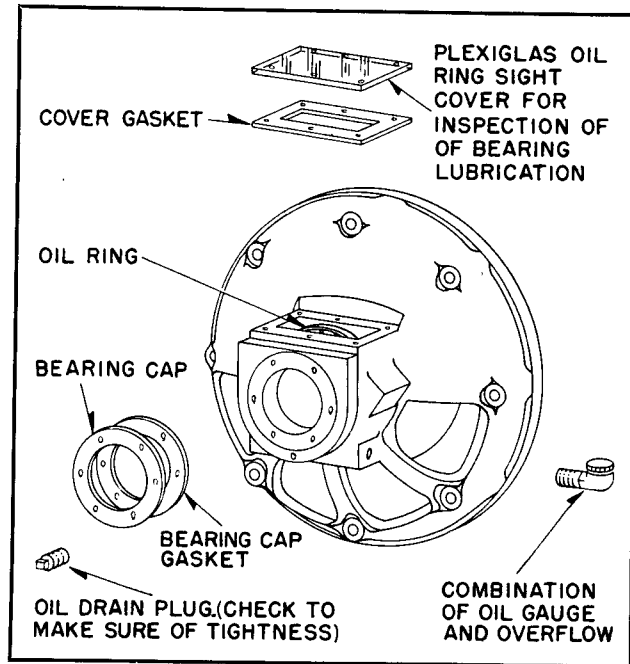

FIG. 5. Detail of Sleeve Bearing Bracket
**Lubrication.** Before starting the motor, fill both oil reservoirs through the combination overflow gauge and filling device with best quality clean dynamo oil. (See Fig. 5). The oil used should have a viscosity of from 185 to 212 seconds viscosity at 40°C. No oil should be poured in the top of the brackets through the oil ring slot cover of the bracket.
1. Drain oil by removing drain plugs from bearing housing. See Fig. 5.